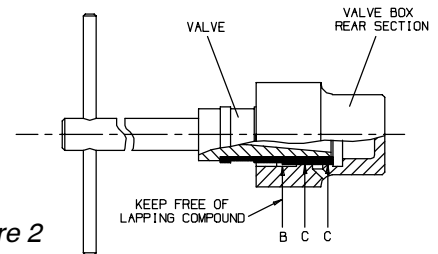

Figure 2
- b. Apply lapping compound to diameter "C" only; keep diameter "B" free of compound at all times. Insert the compound-coated end of the Valve into the rear section of the Valve Chest as shown in Figure 2 and lap until a free fit is obtained.